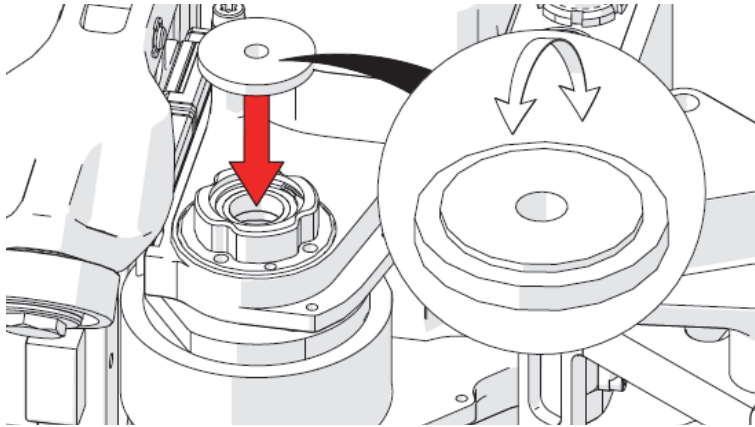

Figure 2-18 Place the washer on the bearing housing
20. Place the washer from the wheel removal tool on the inverted bearing housing, making sure that the shoulder of the washer is facing down into the bearing housing (see Figure 2-18 on page 95).